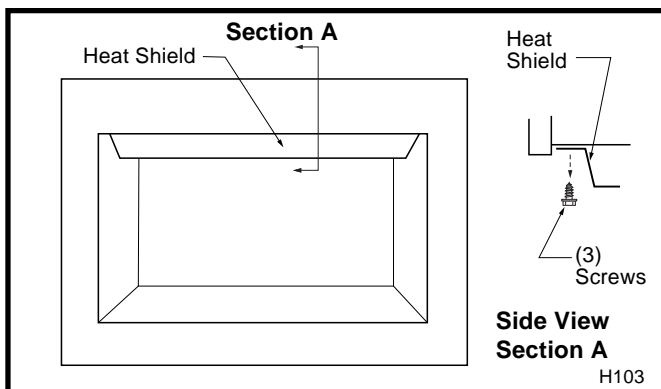

Fig. 75 Heat shield.
2. Remove three (3) screws securing heat shield to combustion dome. (Fig. 75)